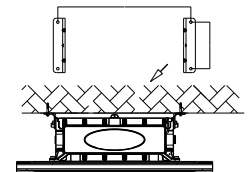

Figure 7
4. Tighten the nut of the screws (Figure 7)..